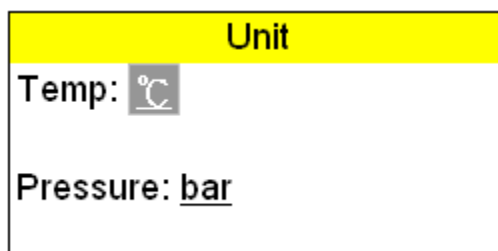

Figure 120
- B. Press  button to the editing mode as shown in Figure 120.